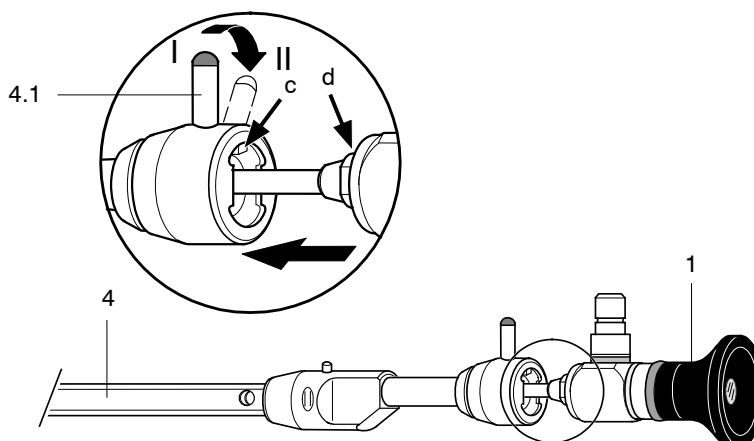

Fig. 4
6.1.2 Inserting endoscope in viewing obturator (Fig. 4)
- ◇ Insert endoscope (1) in viewing obturator (4).